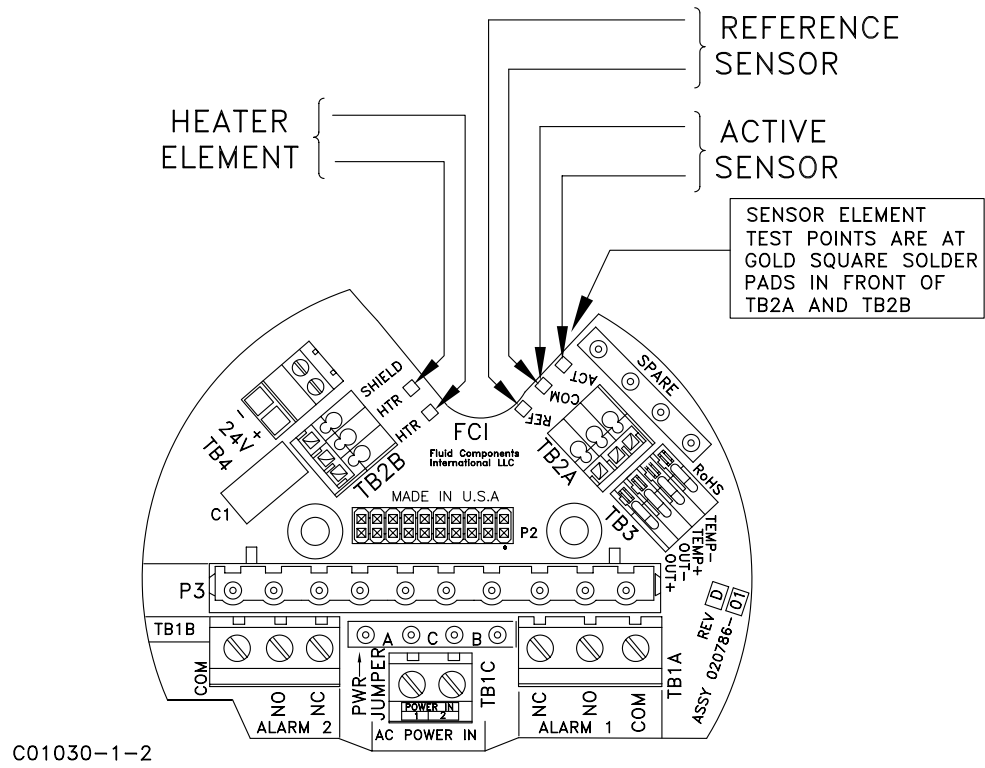

Figure 5-1 Terminal Board, Test Points
- See the troubleshooting chart in Figure 5-1 at the end of this chapter.
(See Fig. 5-1 for test points)